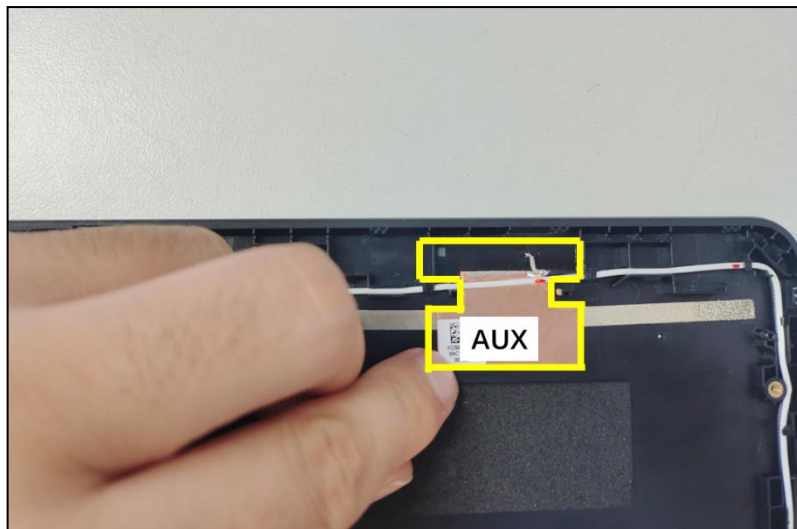

Figure 3-51. WLAN Antenna Removal
3. Gently peel off the AUX antenna and its grounding foil (Figure 3-51). Then remove the AUX antenna from the LCD cover.